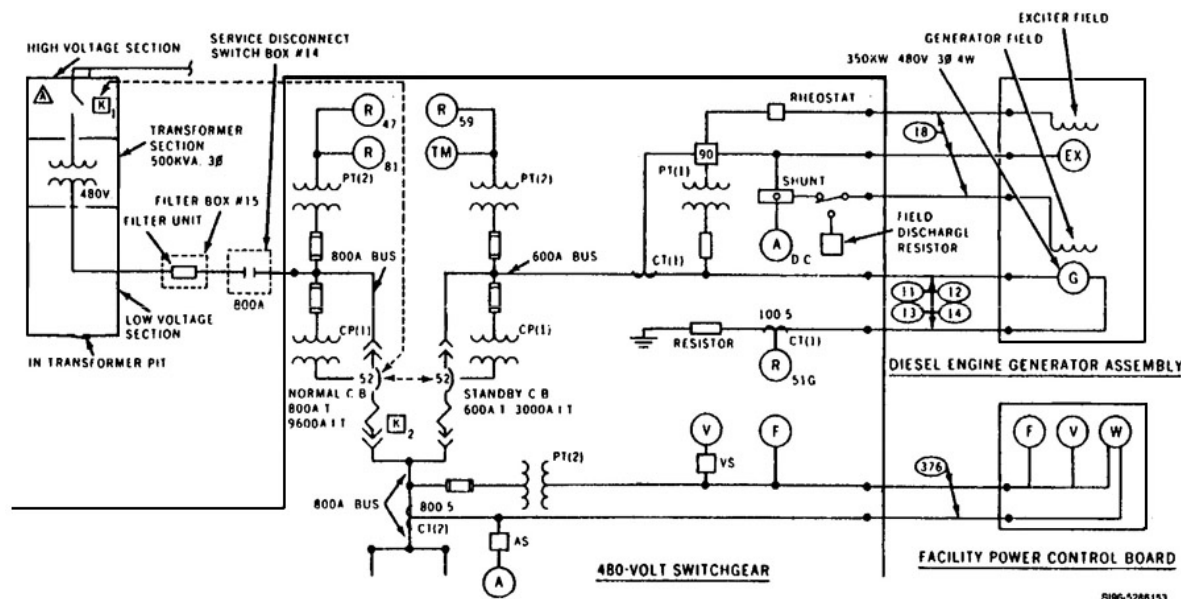

Figure 1-35. One-line diagram.
The most basic diagram is the one-line diagram (fig. 1-35). A one-line diagram helps you maintain continuity in the process of extracting a diagram. However, the major devices, along with their ratings are usually shown, and the diagram follows the path of current flow. The diagram uses heavy lines to show main power circuits with secondary circuits shown with medium lines. This feature makes it easy to relate one inner circuit to another. A big help is that all wires going to and from the devices appear along with the power sources. Items do not appear in their respective location on the switchgear, but you can determine which devices receive power from current transformers and which from potential transformers. For example, in figure 1-35, lights 47 and 81 receive their power from PT (2), and light 51G receives its power from CT (1).